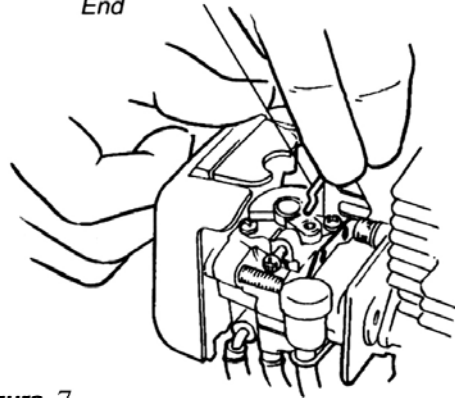

Figure 7
2. Connect the S-shaped end of the throttle cable to the throttle lever on top of the carburetor as shown in Figure 7.